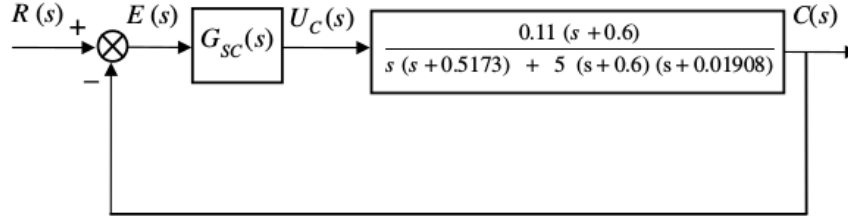

Figure 2: Reduced block diagram of an HEV showing showing output  $C(s) = K_{SS}V(s)$ , the output voltage of the speed sensor/transducer.
rearranging the above block diagram, we obtain the unity feedback system shown in Figure 2. Here the system output is,  $C(s) = K_{SS}V(s)$ , the output voltage of the speed sensor/transducer.
- In the reduced block diagram shown in Figure 2, assume that the speed controller is given as  $G_{SC}(s) = K_{P_{SC}}$ . Find the gain  $K_{P_{SC}}$ , that yields a steady-state error,  $e_{ss} = 1\%$  for a unit step input.
- Simulate the simplified block diagram given in Figure 2 in MATLAB/Simulink. Verify that the derived value of  $K_{P_{SC}}$  calculated in Pre-lab exercise (b) indeed yields an output with 1% steady-state error.